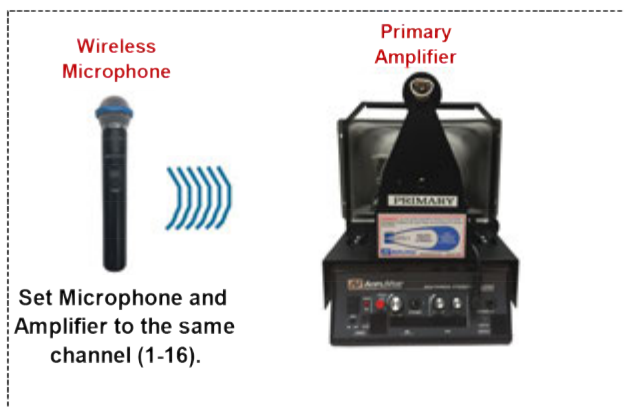

Figure 4
2. Primary Amplifier with wireless microphone *(See Figure 4)*